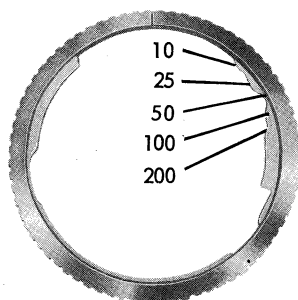
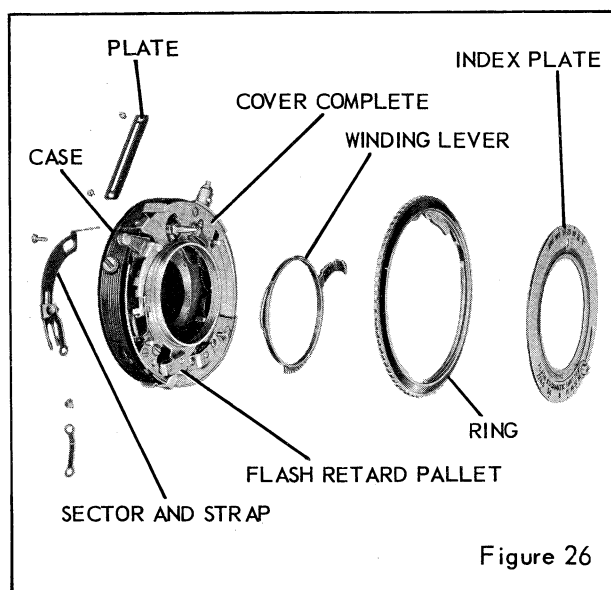
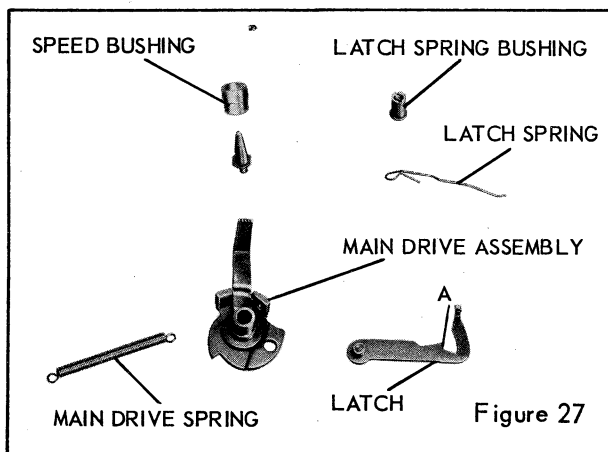
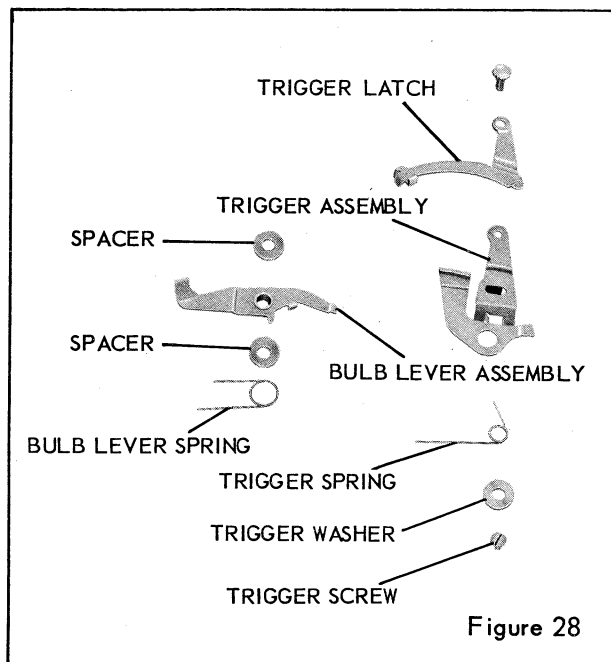

Figure 25
Figure 26
Figure 27
Figure 28
| Shutter does not trip easily | Possible burr on TRIGGER ASSEMBLY, figure 28. | Burnish the trigger and collar assembly at the point where it contacts the MAIN DRIVE ASSEMBLY, figure 27, when in a set position. |
| Shutter does not set | The TRIGGER LATCH, figure 28, is not returning to its proper position after the shutter has been released. | The trigger latch may be bent and is binding on the speed index plate or cover. |
| | The MAIN DRIVE SPRING, figure 27, is weak. | Replace the main drive spring. |
| | Excessive retard sector travel. | Swedge the speed control RING, figure 26, at the area controlling the slow speed. (See figure 25.) |
| Shutter speeds fast | Insufficient retard sector travel. | File the speed control ring at the area controlling the fast speed. (See figure 25.) |
| Shutter blades buckle | <p>NOTE: The following conditions may contribute to blade buckle, singly or in combination.</p> <p>Loose studs on shutter blades or MECHANISM PLATE, figure 31.</p> <p>BLADE CONTROLLER with contact stud, figure 13, not flat.</p> <p>Shutter blades not flat.</p> <p>Mechanism plate not flat.</p> <p>Blade controller too loose or too tight on the central hub of the mechanism plate.</p> <p>Too much play between the mechanism plate and the diaphragm retainer PLATE WITH WINGS ASSEMBLED, figure 31, due to retainer plate's being bowed.</p> <p>Burr or roughness on diaphragm retainer plate with wings assembled.</p> <p>Blades opening too far.</p> <p>Blades closing too far.</p> <p>Shutter blades too loose.</p> | <p>Replace the shutter blades. Restake the studs on the mechanism plate carefully to avoid swelling the tops of the studs.</p> <p>Straighten or replace the blade controller.</p> <p>Replace the blades.</p> <p>Replace the mechanism plate.</p> <p>Replace the blade controller. If it is still too loose or too tight, replace the mechanism plate.</p> <p>Replace the diaphragm retainer plate with wings assembled.</p> <p>Replace the plate.</p> <p>File and burnish the blade controller LATCH at point "A." (See figure 27.)</p> <p>Swedge the mechanism plate at point "B." (See figure 32.)</p> <p>Replace the blades.</p> |
| | The FLASH RETARD PALLET, figure 26, is not meshing properly with the winding lever. | With special Tool No. 657, turn the eccentric post so that the pallet will mesh more firmly in the teeth of the winding lever. Make certain the post is tight on the cover after making this adjustment. |
2. Speed and diaphragm INDEX PLATE, figure 26.
CAUTION: Do not touch the TRIGGER LATCH, figure 28, as it may release the winding gear spring tension.
4. Trip the shutter and lightly hold the winding lever down around the central collar on the cover. As the shutter is tripped, the end of the latch should fall into the slot on the cover. If it does not, add more tension on the trigger LATCH SPRING, figure 27. Check for a bind between the trigger latch and the TRIGGER ASSEMBLY, figure 28, at the point of attachment. The winding lever should contact the trigger latch, push the latch out of the slot in the cover, and open the shutter blades. After the shutter has been tripped, the latch should return to the position where it was resting on the ledge just above the small slot in the cover.
3. Trigger LATCH SPRING, figure 27.
4. Lift up the loose end of the TRIGGER LATCH, figure 28, sufficiently to clear the COVER COMPLETE, figure 26. Move the loose end of the latch until it is clear of the CASE.
5. SPEED BUSHING, figure 27. Be sure to note whether the large or small diameter is resting on the main drive assembly. It must be reassembled in the same position.
6. FLASH RETARD PALLET, figure 26.
4. Unhook the MAIN DRIVE SPRING, figure 27, from the MAIN DRIVE SPRING STUD, figure 32.
5. TRIGGER SCREW, figure 28, TRIGGER SPRING, and TRIGGER WASHER.
3. Place the long end of the retarding sector spring against the inner side of the blade controller LATCH SPRING BUSHING, figure 27.
4. Setting lever cover PLATE, figure 26.
5. Unhook the LATCH SPRING, figure 27, from the main drive latch.
8. MAIN DRIVE ASSEMBLY, figure 27, to which is attached the main drive spring.